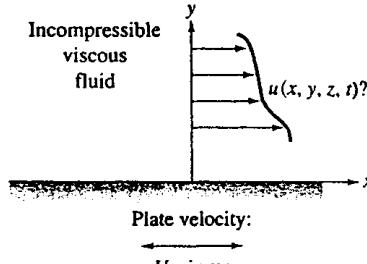

Fig. P4.85
**4.85** A flat plate of essentially infinite width and breadth oscillates sinusoidally in its own plane beneath a viscous fluid, as in Fig. P4.85. The fluid is at rest far above the plate. Making as many simplifying assumptions as you can, set up the governing differential equation and boundary conditions for finding the velocity field  $u$  in the fluid. Do not solve (if you *can* solve it immediately, you might be able to get exempted from the balance of this course with credit).